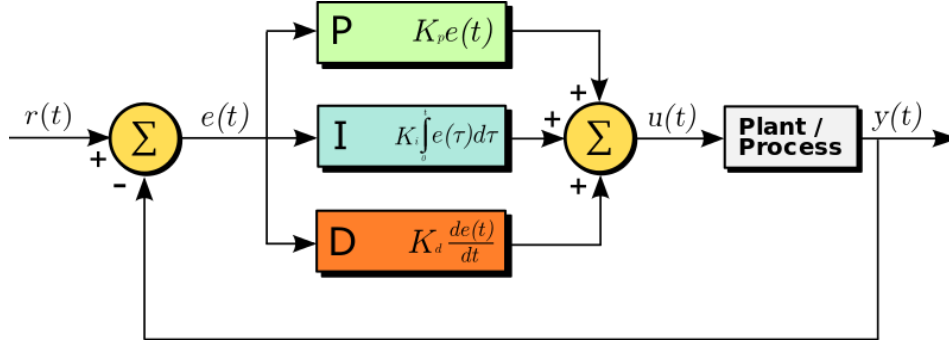

Figure 6.2.: PID control block diagram in a feedback loop. Credit: Arturo Urquiza, License: CC BY-SA 3.0.
A PID controller corrects a given system, e.g., our cooler, based on proportional (P), integral (I), and derivative (D) terms. Figure 6.2 shows a block diagram of the control loop for a PID controller. The set point is denoted $r(t)$, the achieved point $y(t)$. The “plant / process” in this diagram would be our thermoelectric cooler. From the set point and current value, an error $e(t)$ is calculated. Using this error in multiple terms, here all three PID terms, a response $u(t)$ is calculated. The overall control function takes the form